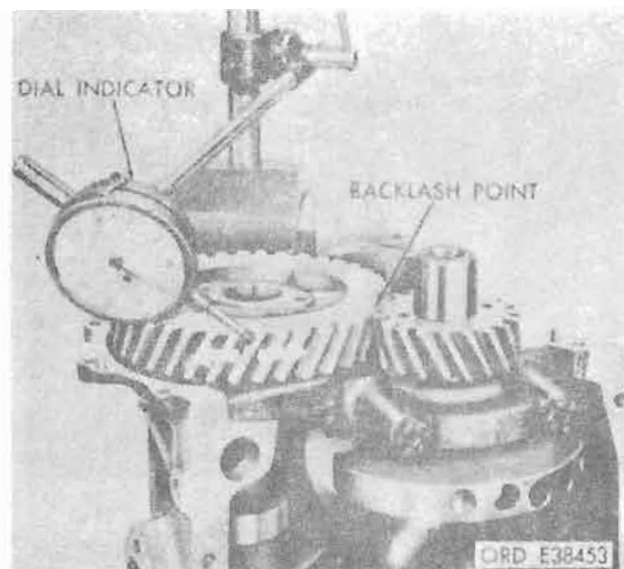

Figure 4-244. Measuring timing gear backlash.
d. *Check Timing Gear Backlash.* Check backlash between camshaft gear and crankshaft gear with a dial indicator. Place indicator so contact tip rests against one of the camshaft gear teeth and indicator axis is at right angle to helical gear tooth. Move gear from left to right to limits of its play and note reading on indicator dial. Turn crankshaft and check backlash at several points on each gear. Specified backlash must exist at each point. If backlash is insufficient or exceeds limits, remove crankshaft gear (para 4-36) and try a new gear on crankshaft assembly. If still unsatisfactory, replace camshaft gear. Check backlash. Be sure timing marks on gears are aligned (fig. 4-244).